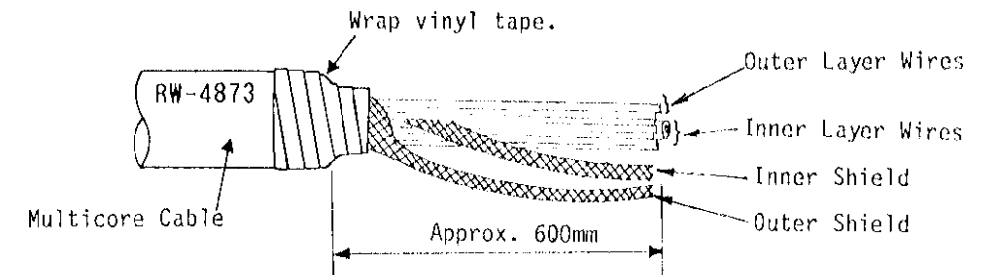

Fig.13
- (5) Remove the vinyl sheath of the multicore cable for approx. 600mm with care not to damage the outer shield, and take the outer layer wires and inner shield out of the outer shield as shown in Fig.13.
- (6) Take the inner layer wires and coaxial cable out of the inner shield and mark the inner layer wires properly for identification. Then wrap the vinyl tape for insulation as shown below.